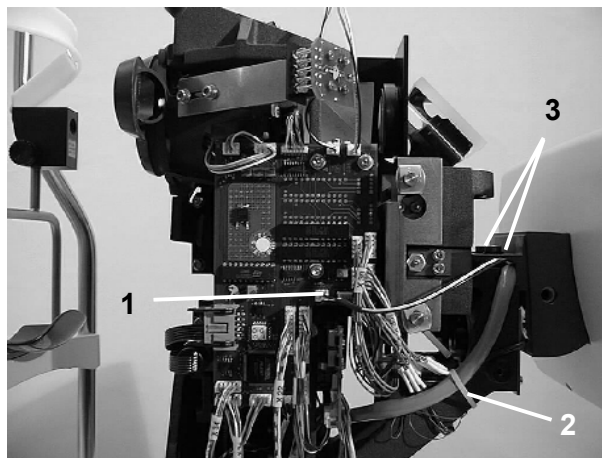

Fig. 12
- Disconnect plug-in connection ((1) Fig. 12).
- Cut open cable tie ((2) Fig. 12).
- Loosen screws ((3) Fig. 12), remove the display and place it to the left of the unit on a table top.
- Attach the LC display, push in the display as far as it will go and tighten screws ((3) Fig. 12).
- Fasten new cable tie ((2) Fig. 12) and re-attach the cable clamp.
- Re-establish plug-in connection ((1) Fig. 12).